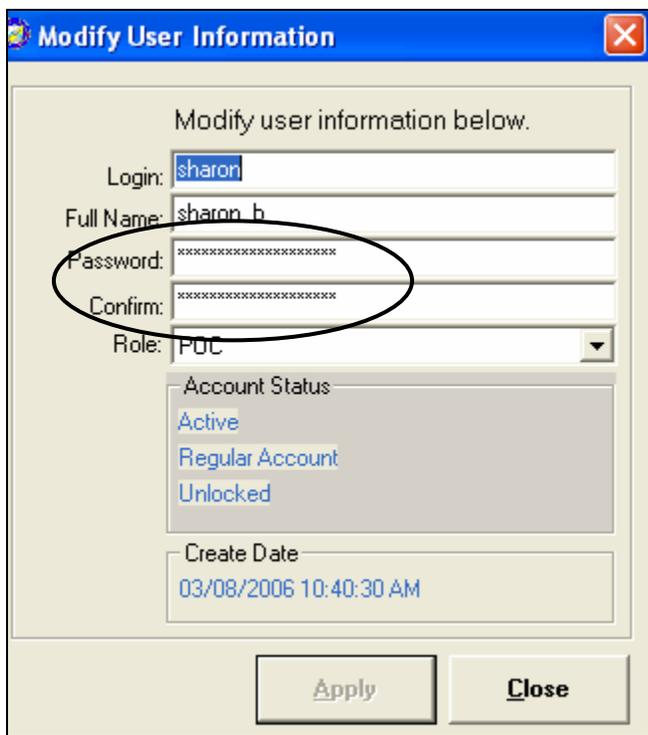

Figure 3.16
1. Click the 'Users' icon  from the main SAT screen. A window appears that displays all user accounts. Double-click the user login whose password needs to be reset. Type a new password in the 'Password' and 'Confirm Password' fields as displayed below in Figure 3.16. Password requirements mandate that the password have a minimum of 8 alphanumeric characters. The password is also case sensitive.